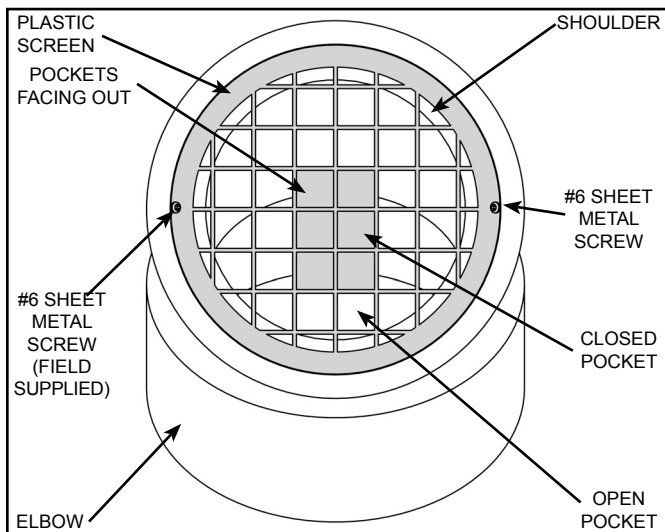

Figure 35.
- Plastic screens must be secured with two (2) corrosion resistant sheet metal screws as shown in Figure 35. This will allow for easy removal for inspection and cleaning.